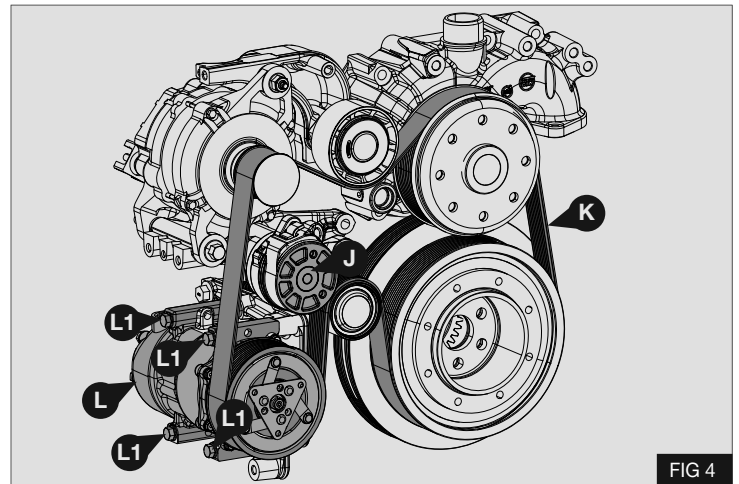

FIG 4
4. Release tension on drive belt and lock automatic belt tensioner **J** using a suitable pin - Fig 4
5. Mark direction of rotation on drive belt **K**, remove belt and retain for re-use - Fig 4
6. Remove and retain fasteners **L1** securing AC compressor **L** or Fasteners **M1** securing Foolish pulley **M** - Figs 4 & 5